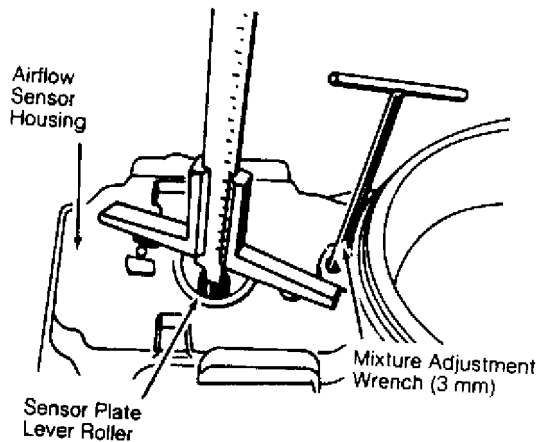

Fig. 2: Adjusting Sensor Plate Lever On Airflow Sensor Housing
1) Check sensor plate for centered position in airflow sensor housing. See Fig. 2. If plate binds on housing or is off-center, remove 6-mm bolt holding plate to lever. Coat bolt with locking compound and install finger tight.
2) Use a depth gauge or vernier caliper for measuring distance. See Fig. 2. Distance should be .74-.75" (18.9-19.1 mm). If distance is out of specified range, correct it by adjusting mixture screw.